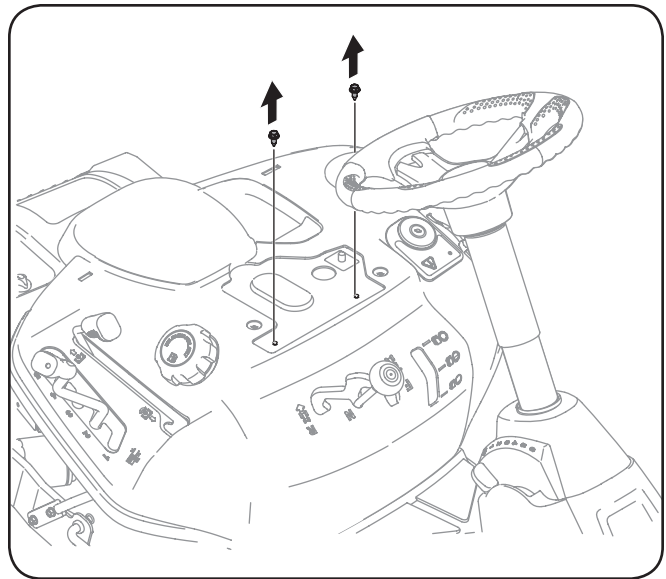

Figure 3-5
2. Remove the two self-tapping bolts factory installed on the tractor. See Figure 3-5.